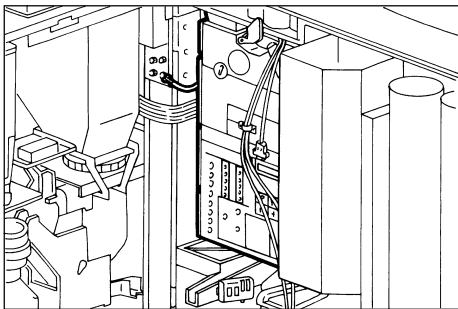

Fig. 20
- Fasten the coiner to the relevant plate with the three pins already fitted on the plate. Keep the coiner release lever pressed to make the coiner fitting easier (Fig. 20).